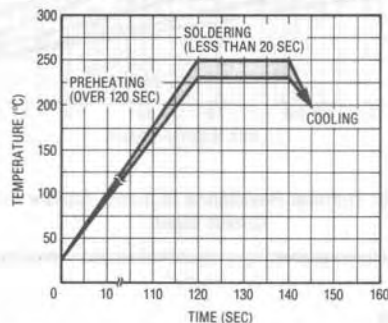
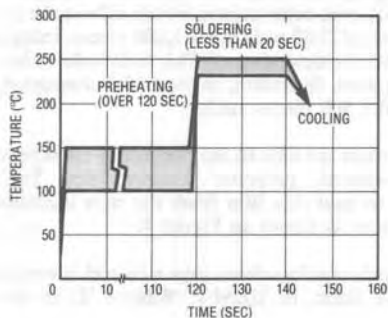

Figure 5. Temperature Time Profile for Two-Zone Reflow Soldering
Figure 6. Temperature Time Profile for Solder Bath Soldering with Preheating
Soldering is carried out in a furnace at a temperature of 230°C to 250°C, preferably in less than 20 seconds. Preheating time should be 120 seconds or longer. Whichever type of heating method is used, the object is to achieve the required time-temperature profile. Figure 5 shows the temperature profile required for belt furnace with tunnel heating. Figure 6 shows the temperature profile required for solder bath soldering with preheating.
**Pulse-heat reflow.** This method requires a special heat collet which directs the flow of a heated gas around the surface-mounted device and onto the terminals and the printed circuit board pads. The heating, reflowing and cooling cycles should be similar to those shown in Figure 5.